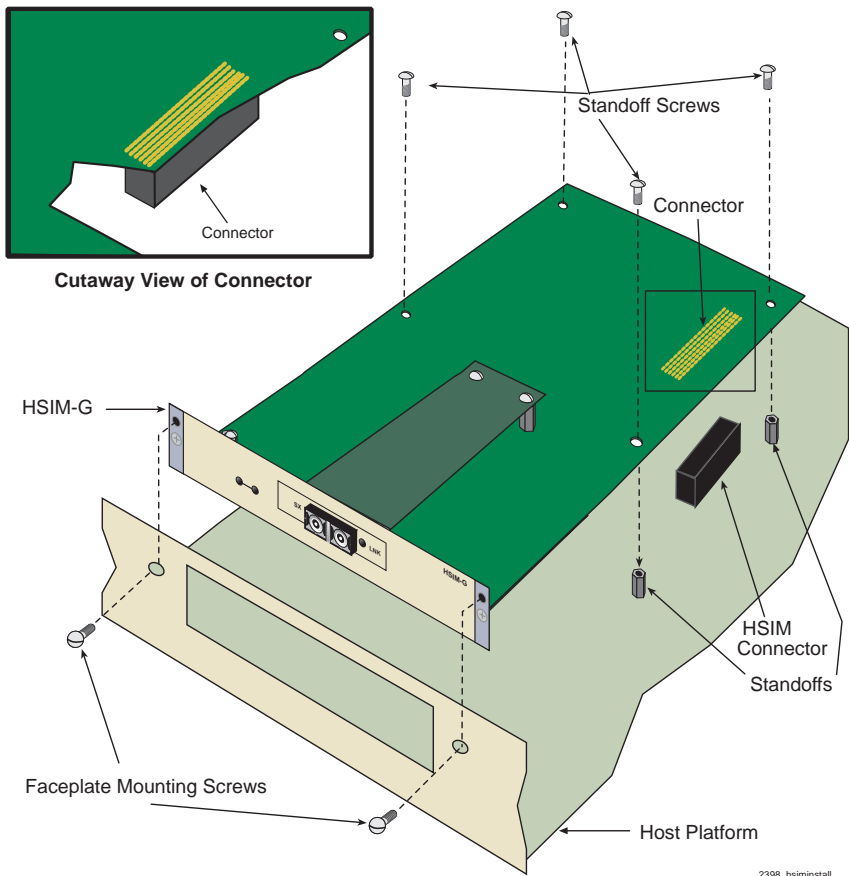

Figure 2-2 Installing the HSIM-G
7. Refer to Figure 2-2 and place the HSIM-G behind the module faceplate.
7. Refer back to Figure 2-2 and place the HSIM-G behind the standalone device faceplate.